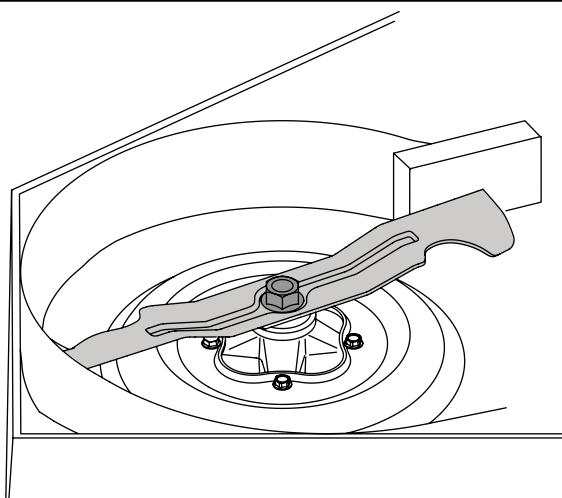

Figure 31
2. Use a 1- $\frac{1}{8}$ " wrench to hold the hex nut on top of the spindle assembly when loosening the hex nut securing the blade. A block of wood may be placed between the deck housing and the cutting edge of the blade to help in breaking loose the hex nut securing the blade. See Figure 31.